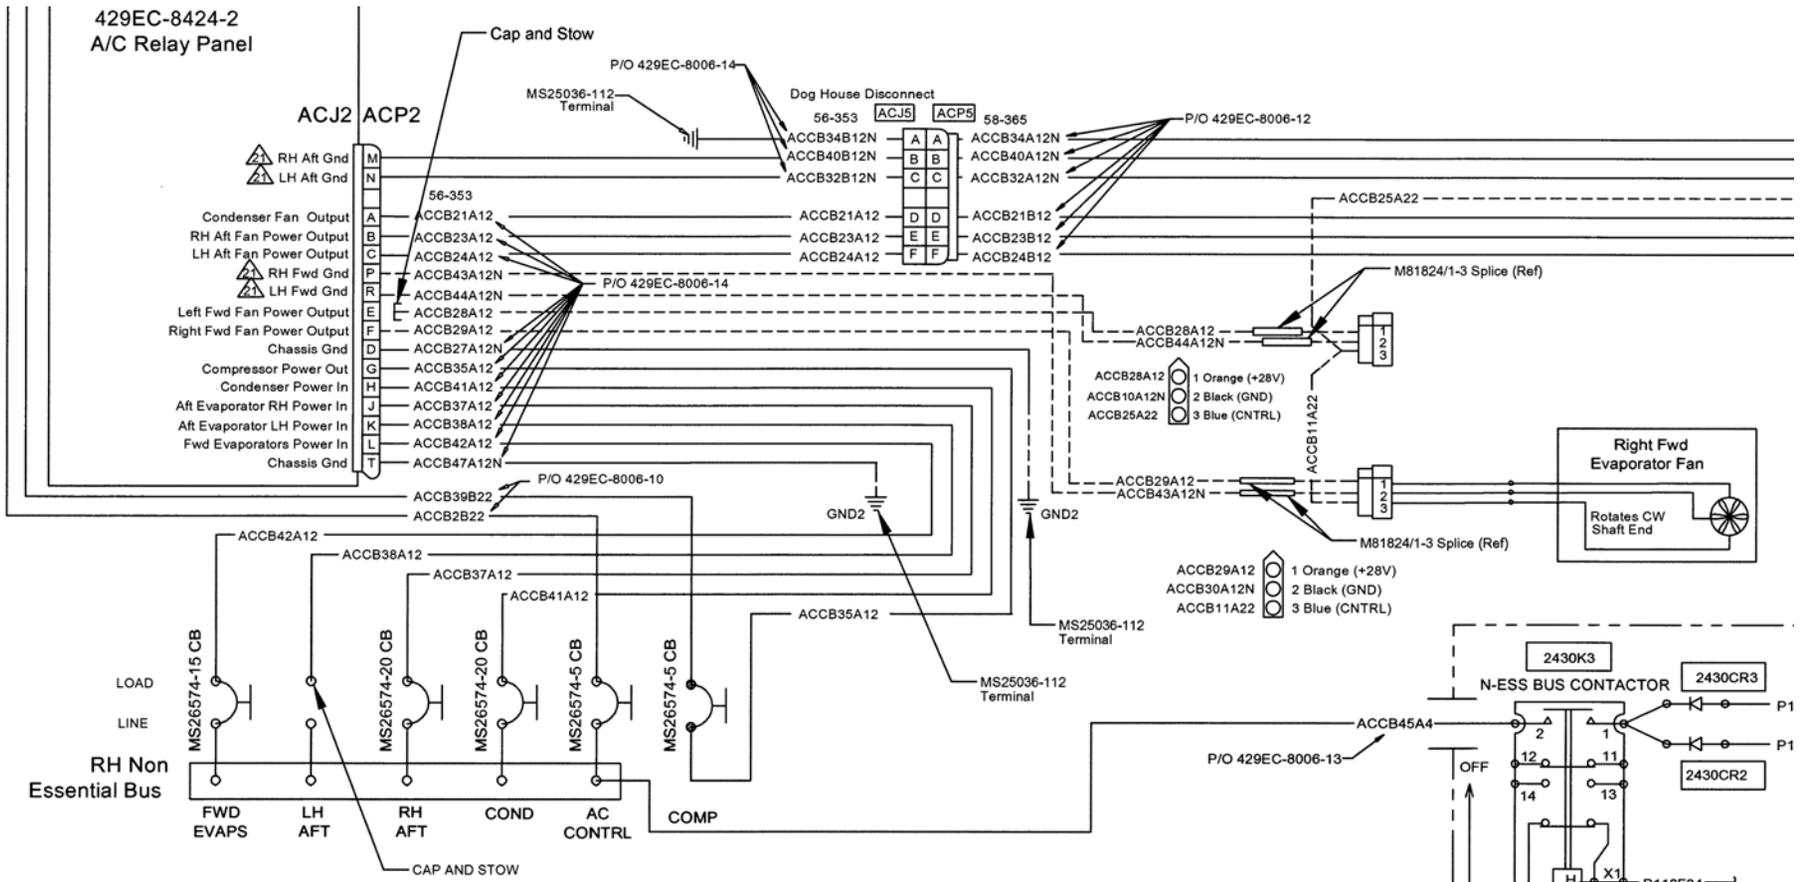

Figure 14: Converted Single Evaporator Electrical Wiring Schematic (From Drawing 429EC-812-1)
3. Cap and stow wire ACCB38A12. See Figure 14.
5. Cap and stow wire ACCB28A12 at ACP2, Pin E. See Figure 14.